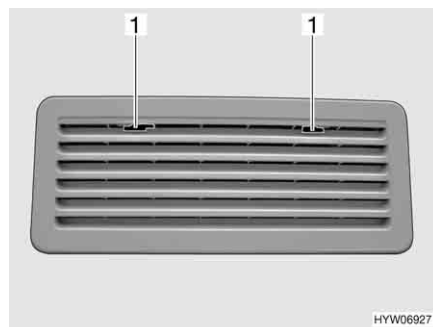

Fig. 174 Refrigerator ventilation grill
- Move the locking device (Fig. 174,1) to the middle.